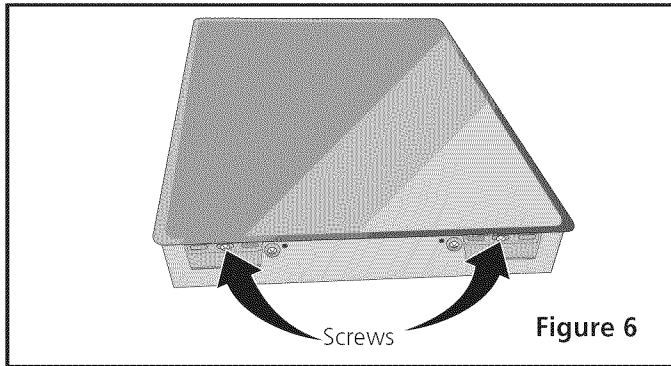

Figure 6
1. Visually inspect the cooktop for damage. Also make sure all cooktop screws are tight (see Figure 6).